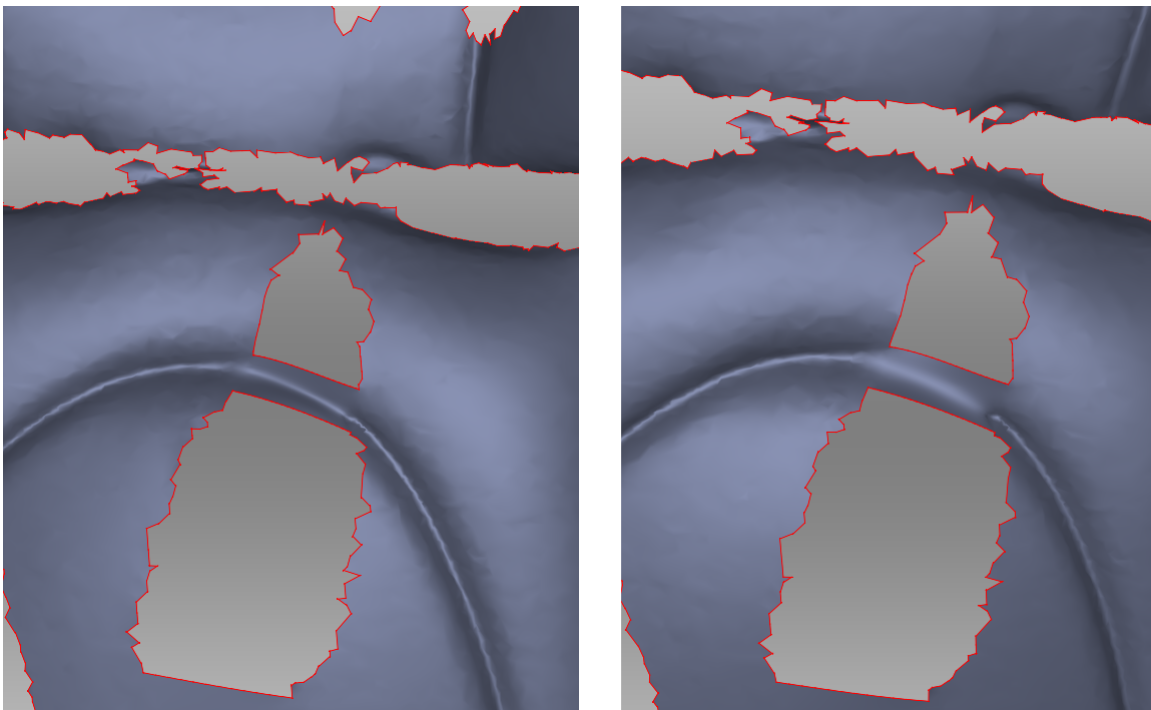

Figure 133: Small smoothness values on left and maximum on right.
- Use small or medium values of the *Bridge smoothness* slider (Figure 133).